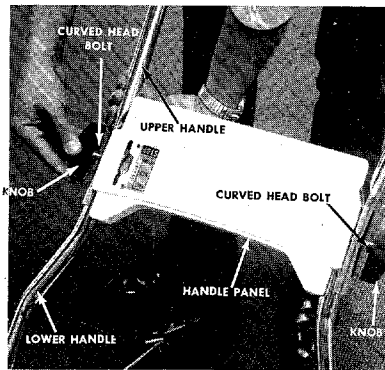

FIGURE 5. UPPER HANDLE ASSEMBLY
5. Place the upper handle over the lower handle and line up the holes as shown in figure 5.
6. Insert the curved head bolt from the inside and tighten the knob by hand. See figure 5.